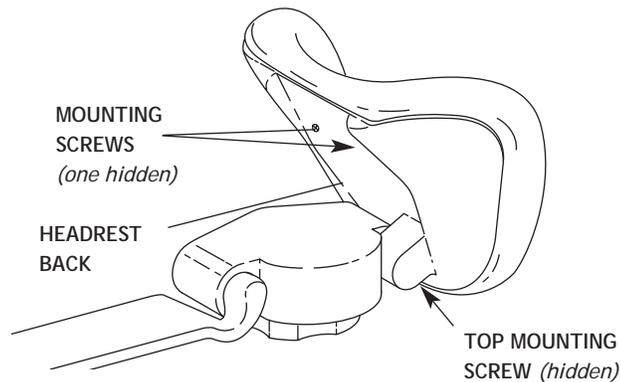

Figure 14. Replacing Headrest Upholstery
3. Rotate the headrest back 45° to expose the two Phillips mounting screws on the headrest back (see Figure 14). Remove the two screws and the headrest cushion.